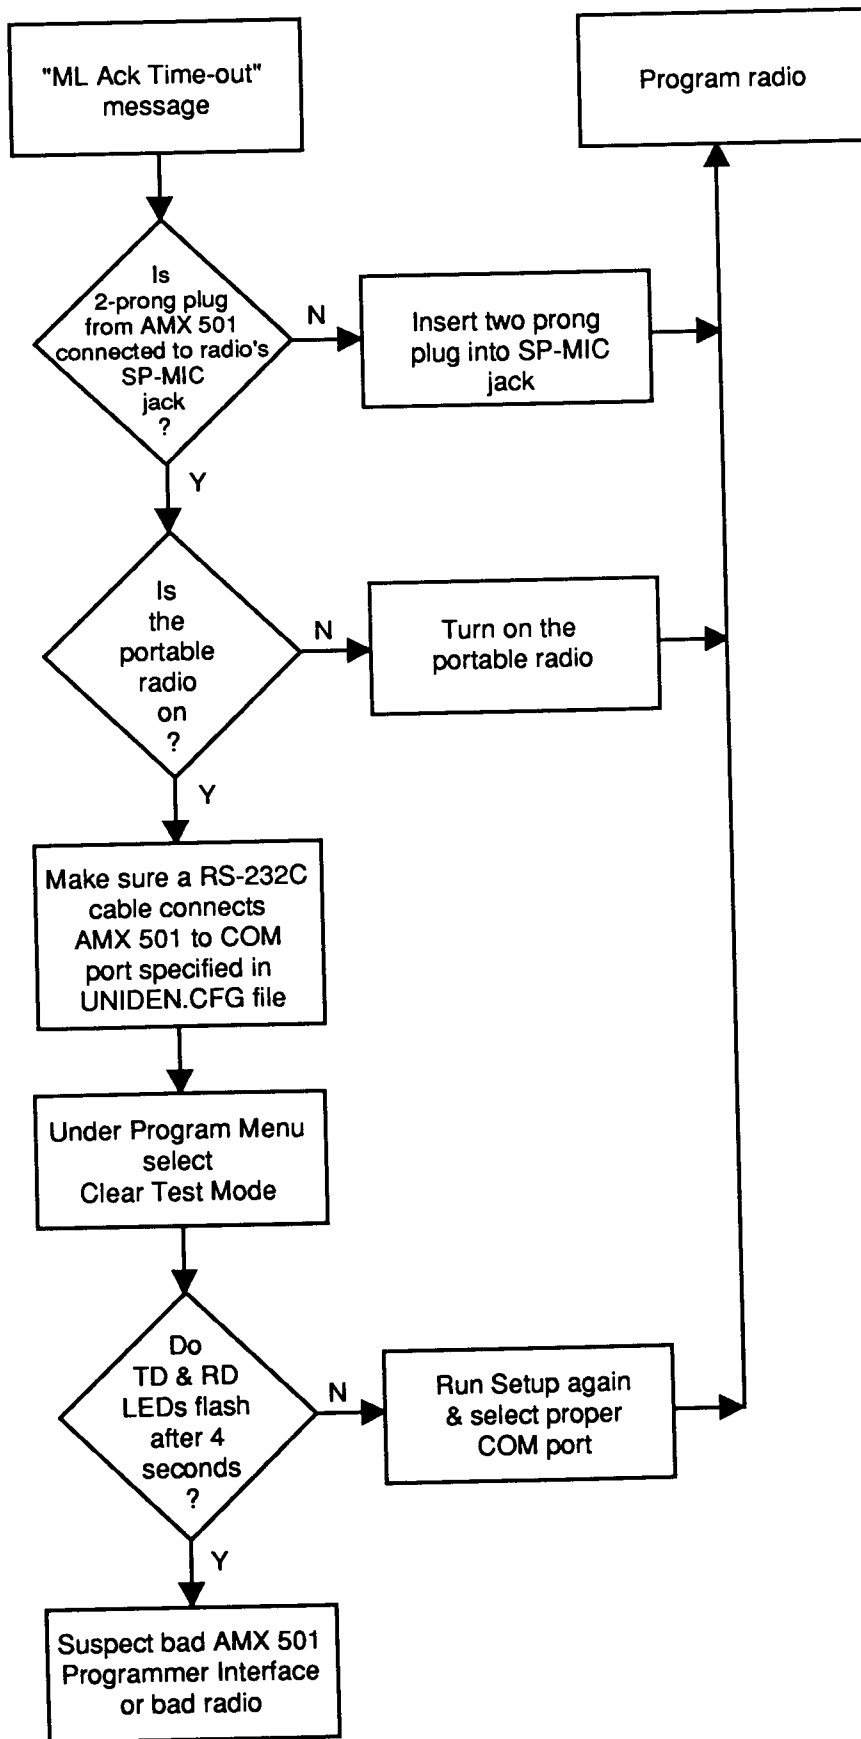

Figure 4. "ML Ack Time-out" Error Message
- Use figure 4 when you try to program a radio and the error message "ML Ack Time-out" appears.